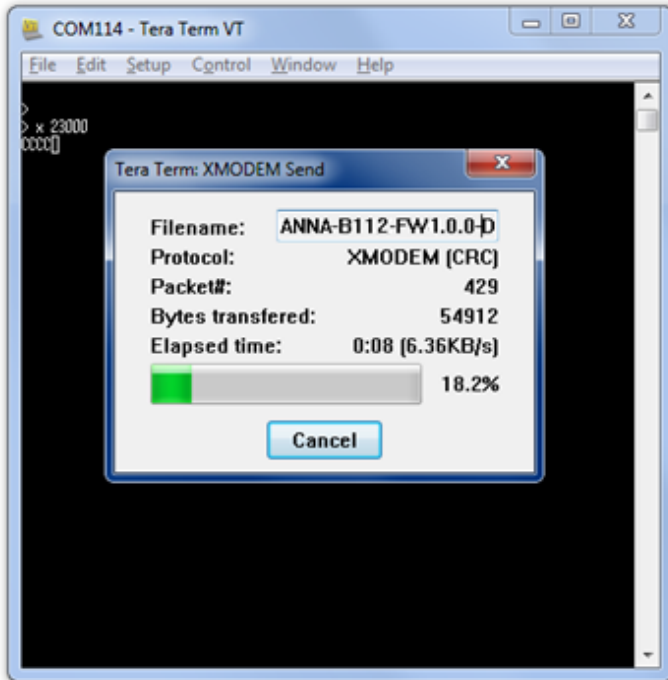

Figure 23: Screenshot shown during file transfer
- Send the file using the XMODEM protocol, as shown in Figure 23 .